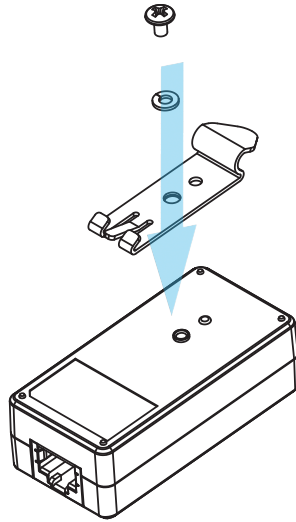

Figure 1
1. Use the **Guide Peg** at the bottom of the **Network Isolator** to align the **DIN Rail Mounting Kit** into its correct position. Use a **Phillips Head Screwdriver** to install the **Self-Tapping Screw** and secure the **DIN Rail Mounting Kit**. (Figure 1)